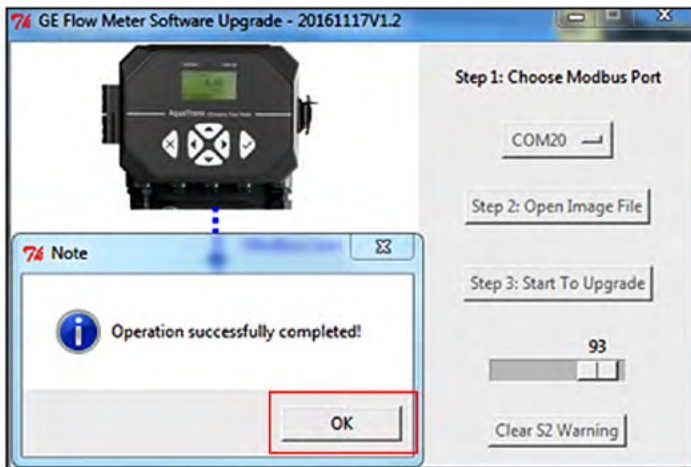

Figure 40: S2 warning successfully cleared
3. After about 15 seconds, a screen similar to figure 40 below is displayed. Click OK and then reboot the AT600 to confirm that the S2 error has been cleared.